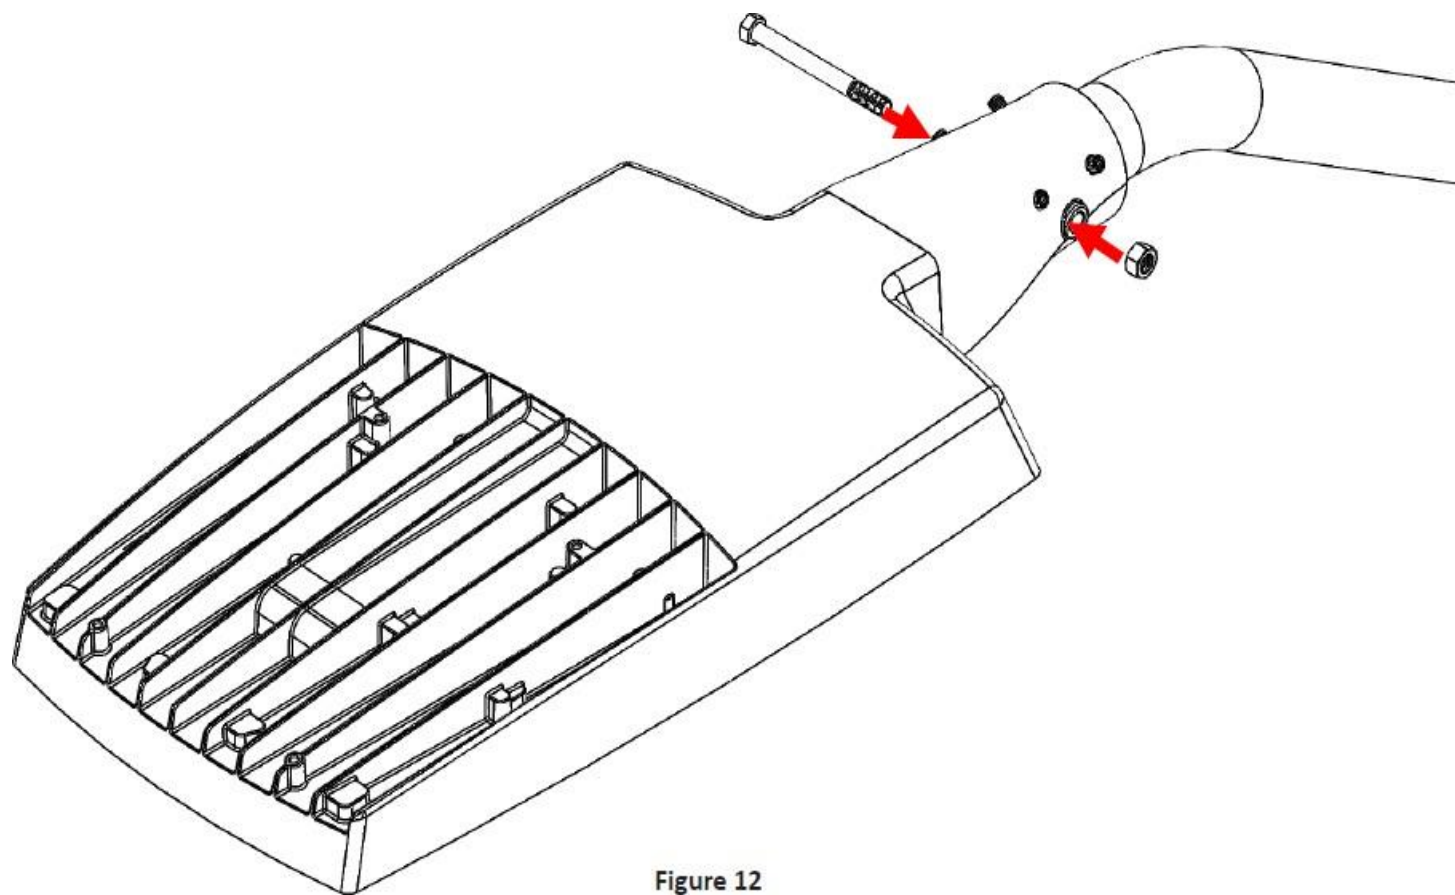

Figure 12
8. Reorient luminaire to desired position on the tenon and Insert provided 7/16"-14 x 4-1/2" bolt through Mast Arm Mount and drilled 1/2" Ø hole on tenon and place provided 7/16" nut onto bolt (see figure 12) and tighten securely to 45-50 ft-lbs.
9. Evenly tighten the Six (6) 3/8-16 UNC Mast Arm Set Bolts while maintaining the correct position of the luminaire to 13 ft-lbs.